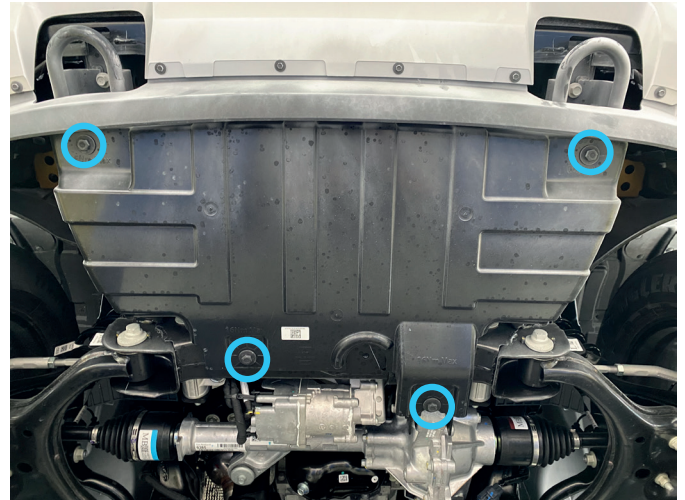

Fig. 2
**If the vehicle has the RIVAL radiator skid plate, loosen the front and rear bolts of the radiator skid plate shown in fig.2 (2111.1884.1.3 / 2333.1884.1 / 2333.1884.1.6)